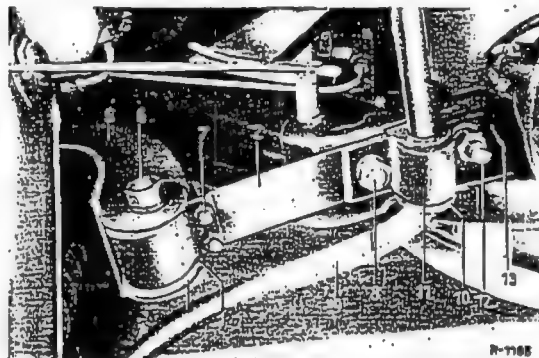

Fig. 33-1/13
7. Detach the brake hose from the brake line on the chassis base panel left and right (Fig. 33-1/20).
8. Loosen and tap out the hexagon screw (6) on the bearing bracket (5) for the two flat springs (2) for the front axle longitudinal support at the left and at the right (Fig. 33-1/13). Remove the flat spring from the bearing bracket.